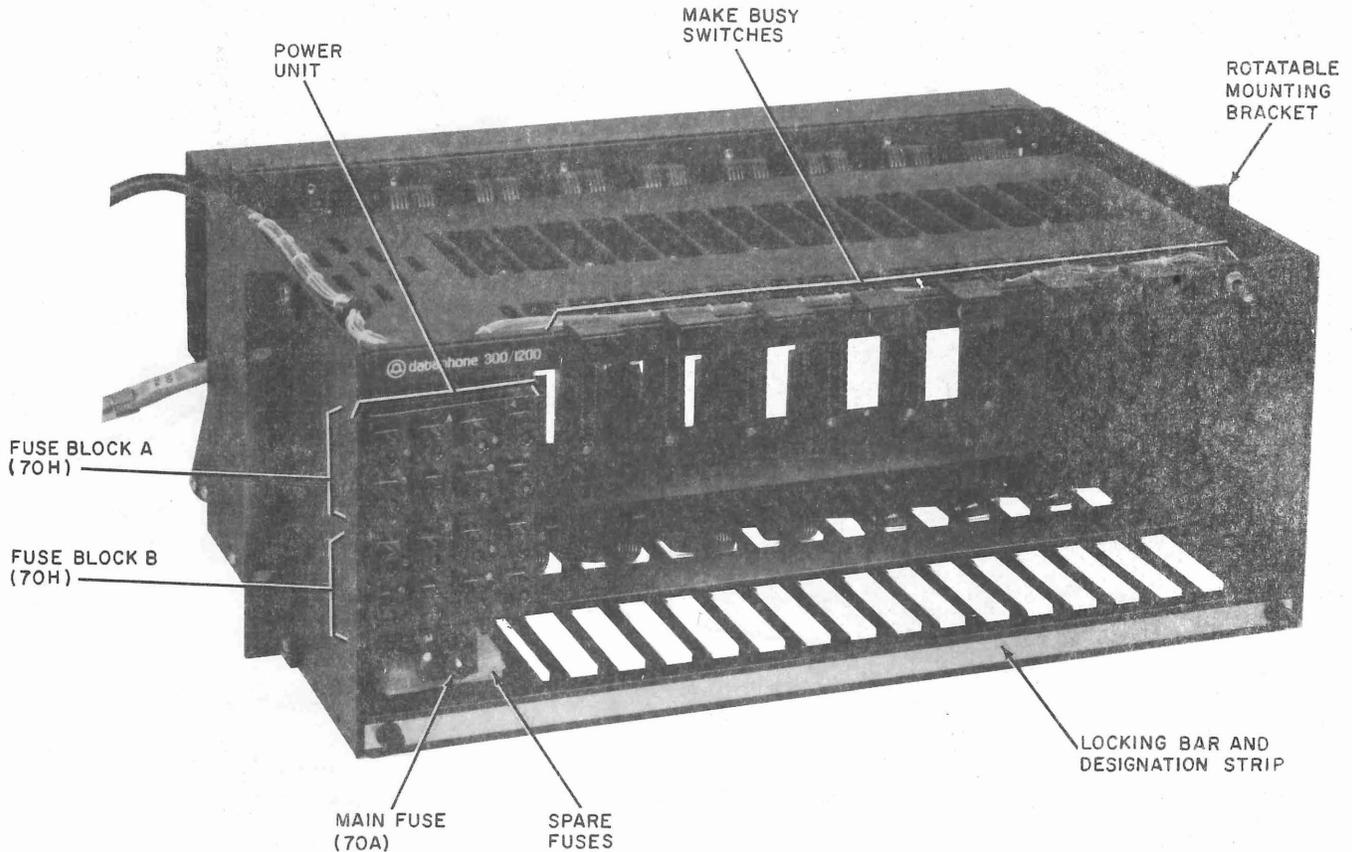

Fig. 2—40A2 Data Mounting (Shown for 19-Inch Mounting)
**1.04 40A2 Data Mounting:** The 40A2 data mounting (Fig. 2) is physically similar to the 40A1 data mounting and can be identified by the designation DATAPHONE® 300/1200 located on the front. The 40A2 data mounting is electrically similar to the 40A1 data mounting except for additional interface connections for data set (DS) 212A and for an improved service line exclusion feature. All arrangements described in this section can be similarly employed with the 40A1 data mounting except for those using DS 212A. Service line connections and options listed in this section have to be appropriately modified.